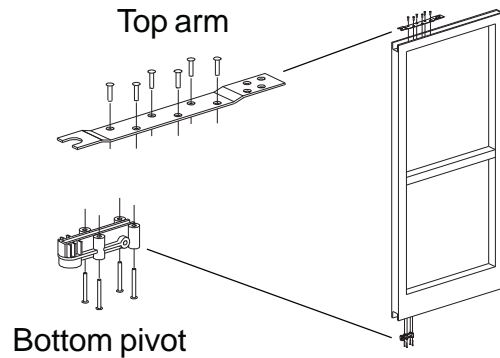

Figure 11-2
11.2. Install top arm and bottom pivot using screws supplied with those components (Figure 11-2). Use machine screws for metal door; use wood screws for wood door.